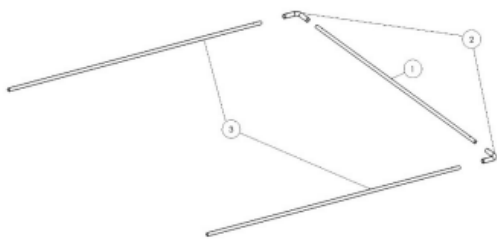

Figure 4.14
Lay the cross tube (1) on the ground behind the truck. Slide the 90-degree elbows (2) into the cross tube so that they are pointing toward the truck. Slide the upper arms (3) over each of the 90-degree corners. Verify that the cross tube is the right size by checking to see that the upper arms can be slid into the lower arms. If the cross tube is too long cut it to size. (Figure 4.14)